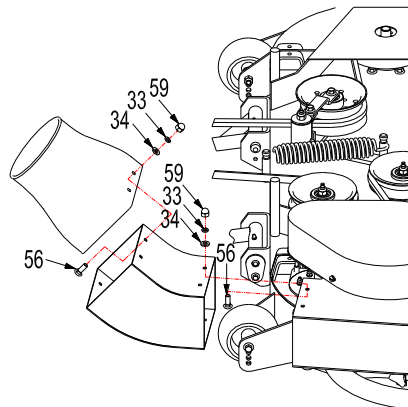

FIG 7
3.4 Blower Discharge Transition Tube Assembly (FIG 7)